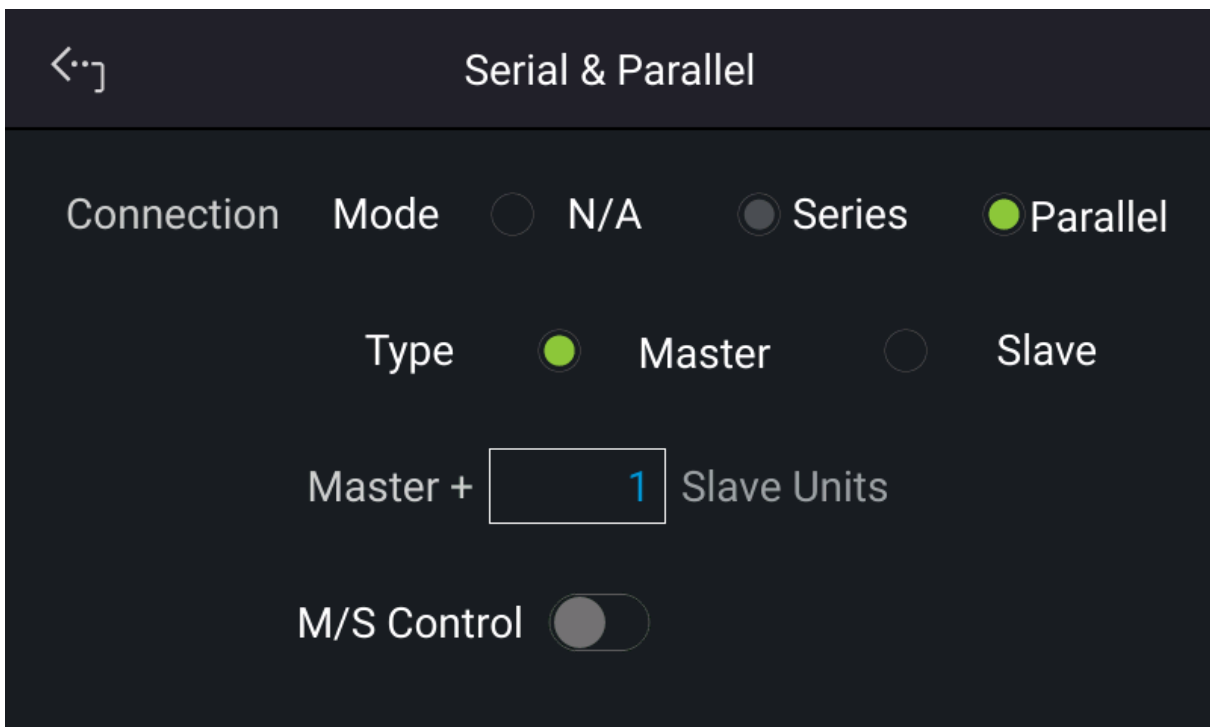

Figure 3-55
1. In Menu page, tap “Configuration” → “Series & Parallel” and the screen will appear as Figure 3-55.
1. When the parallel communication interface is installed, follow the steps described in previous section to enter into Serial & Parallel page as Figure 3-55 shows. .
3. When paralleling two units set Master+ as shown in Figure 3-55.